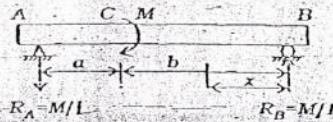

Fig. 1
7. (a) Draw SF and BM diagrams for the beam with applied moment as shown in Fig. 1. 15